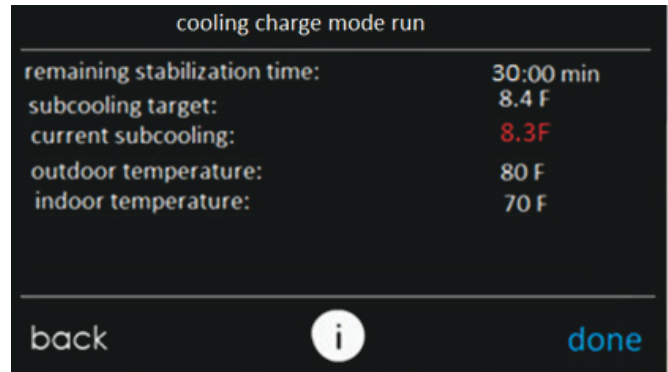

Fig. 20 – Cooling Charge Mode Run Screen A240375
9. Once start has been pressed, the next screen will show the target subcooling that should be attained while charging. If subcooling mode is not available, the current subcooling and target will display as dashes and the refrigerant must be weighed in. Weigh in the charge amount recorded in Step 7. The charge level may then be checked at another time when both the indoor and outdoor temperatures are in a more favorable range that allow for subcooling charging. When subcooling is available, the current subcooling will appear in red (Fig. 20) until the stabilization timer is 0 where it will then turn green, indicating the system has stabilized. “Current subcooling” is calculated using sensors inside the ODU, but may be in error until stabilization time has completed. Compare the “current subcooling” to the “subcooling target” listed on the charging screen. Add refrigerant if the subcooling is low and remove refrigerant if